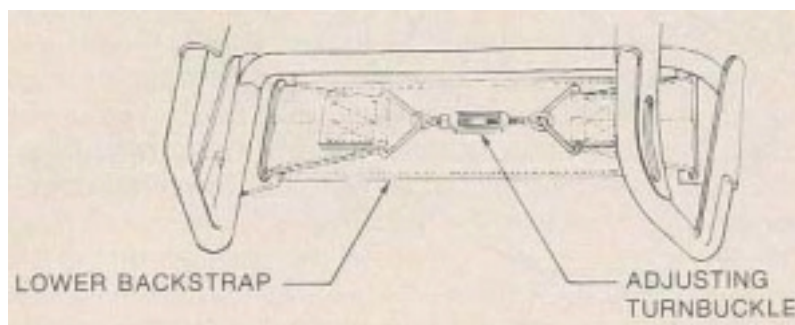

Figure 5. Attaching Lower Backstrap to Pack Frame
- C.** Slide lower backstrap through slots on pack frame and connect turnbuckle to both ends of lower backstrap. Refer to figure 5. Tighten turnbuckle. This adjustable lower backstrap keeps the load away from the carrier's back and allows air circulation between the back and the load. When the turnbuckle is screwed tight, the strap is almost flat. If the carrier's waist is small, the turnbuckle should be loosened enough to allow the backstrap to curve in and fit against the lower back.